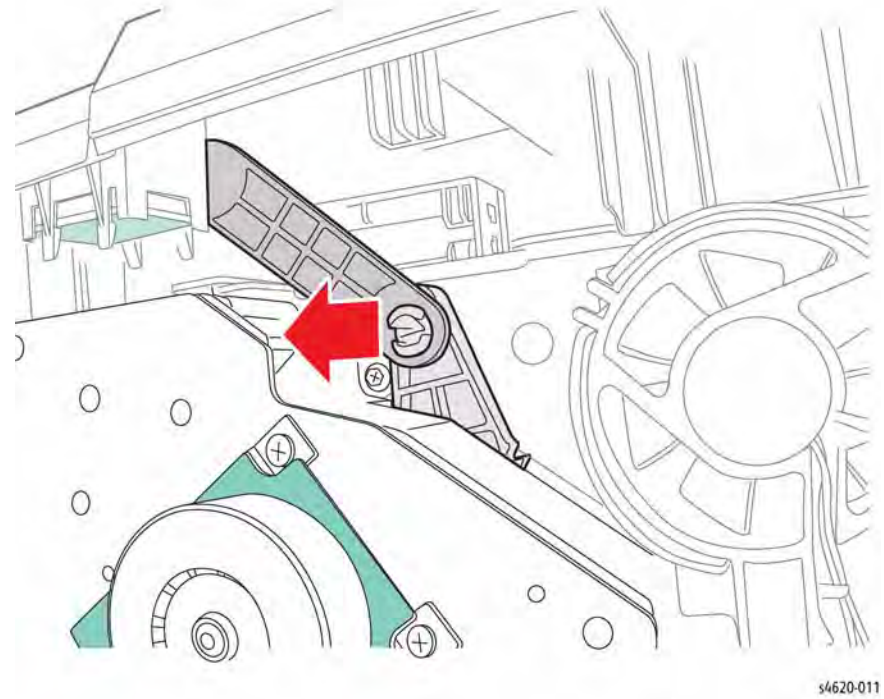

Figure 2 Disconnect Top Door linkage from the Main Drive Assembly
9. Release the top door linkage from the Main Drive Assembly, Figure 2.